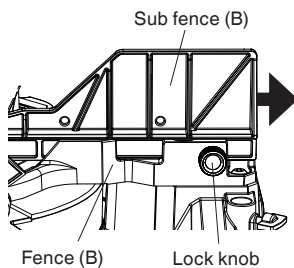

Fig. 12
knob, then slide the sub fence (B) outward, as shown in Fig. 12.